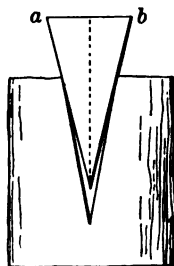

FIG. 92
5. *The Wedge* (Fig. 92). If the wedge were twice as long as it is wide at the base  $ab$ , for every inch that it